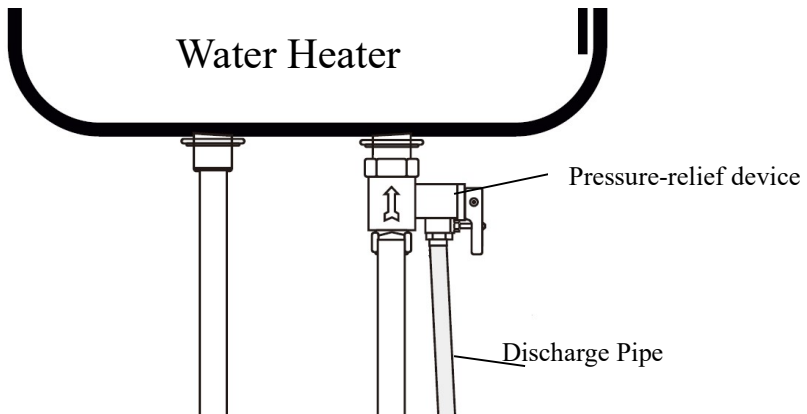

Fig.6
2. The Pressure-relief device must be attached with the machine and be installed at the cold water inlet, and the installation direction must be correct with the pressure release hole downward (see Fig. 6).